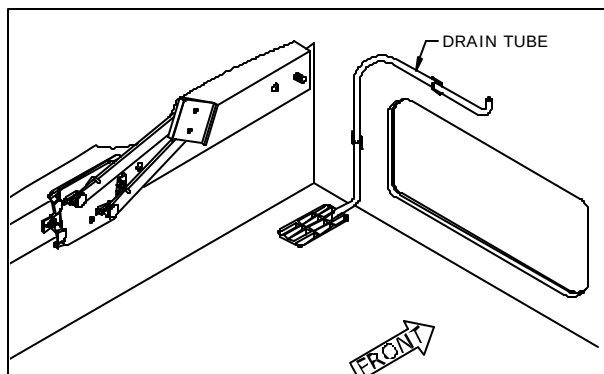

Figure 16.
10. Finally, secure the drain tube to the truck bed using the zip ties and adhesive-backed anchors included in the kit. **See Figure 16.**